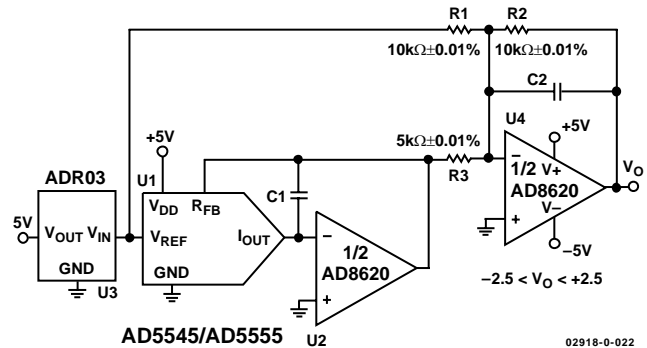

Figure 22. Four-Quadrant Multiplying Application Circuit
In some applications, it may be necessary to generate the full 4-quadrant multiplying capability or a bipolar output swing. This is easily accomplished by using an additional external amplifier, U4, configured as a summing amplifier (see Figure 22). In this circuit, the second amplifier, U4, provides a gain of 2, which increases the output span magnitude to 5 V. Biasing the external amplifier with a 2.5 V offset from the reference voltage results in a full 4-quadrant multiplying circuit. The transfer equation of this circuit shows that both negative and positive output voltages are created because the input data (D) is incremented from code zero ($V_{OUT} = -2.5\text{ V}$) to midscale ($V_{OUT} = 0\text{ V}$) to full scale ($V_{OUT} = +2.5\text{ V}$).